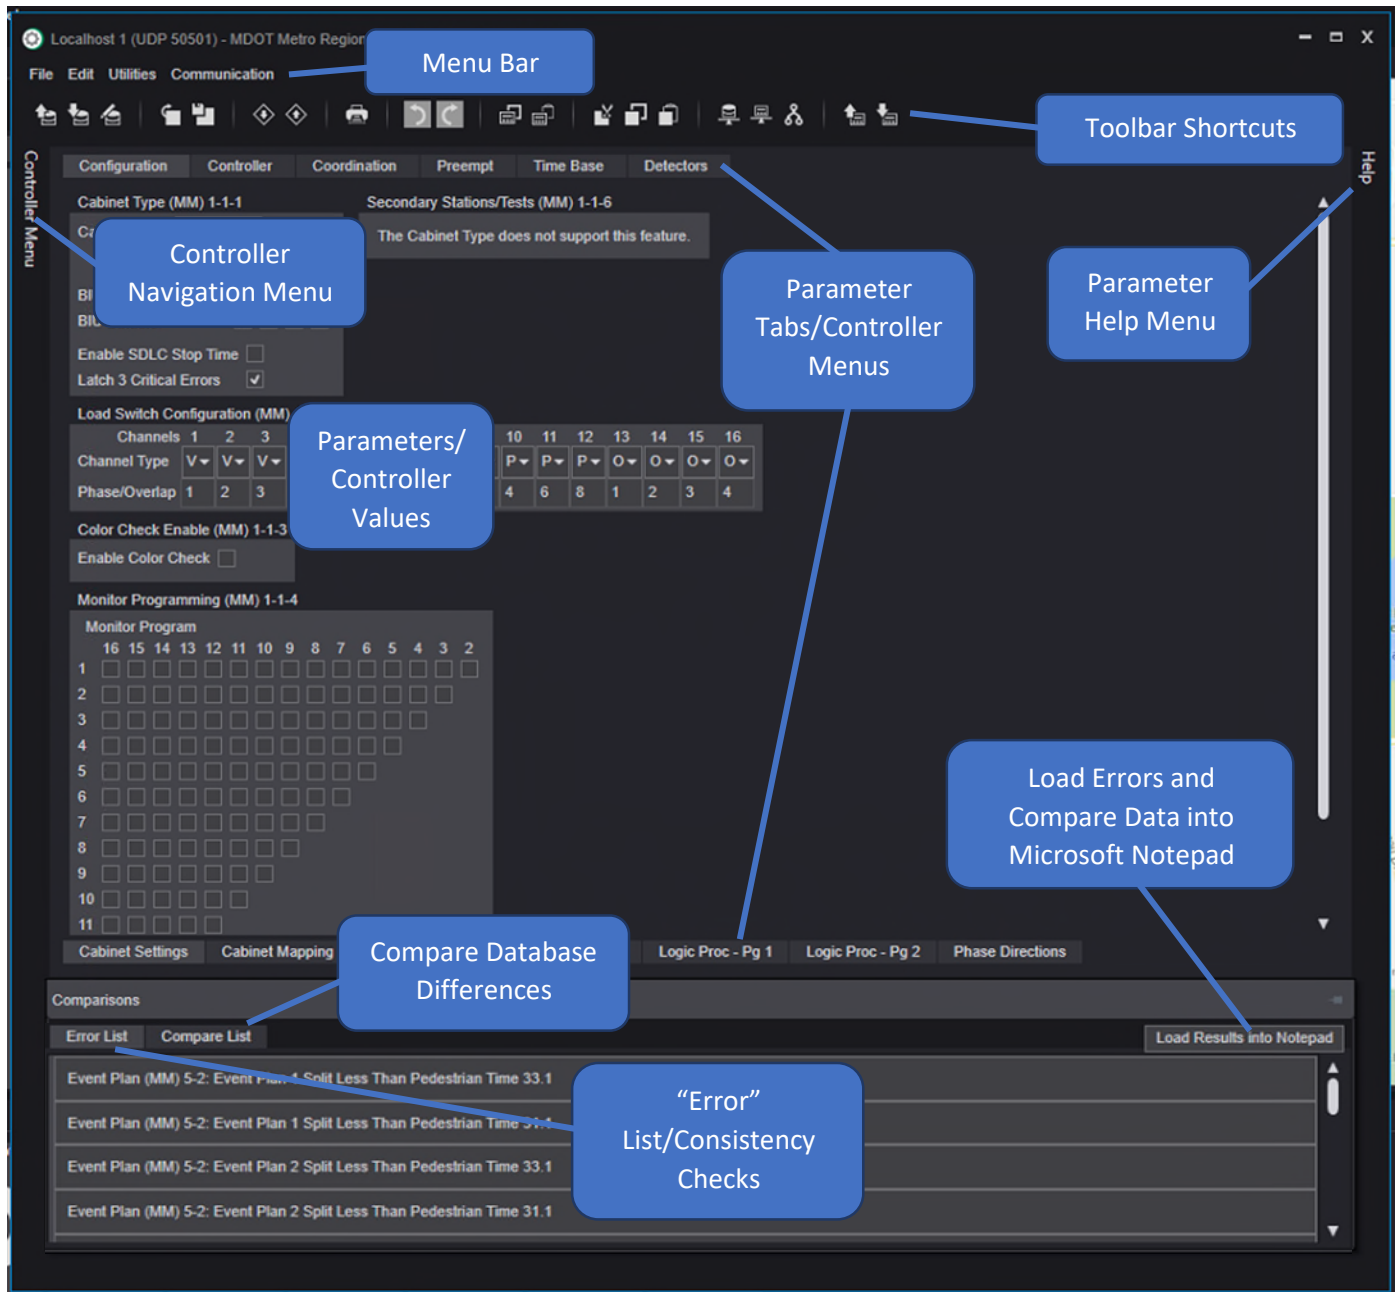

Figure 70: The signal database editor window for MDOT locations running EOS firmware.
**Error List:** If any potential errors or misconfigurations have been found in the traffic signal controller parameters, the details will be shown in this tab. In the database editor screenshot (Figure 70), it is shown that vehicle split times are less than pedestrian times. This is similar to the consistency checks conducted by EOS on the Econolite Cobalt controller.